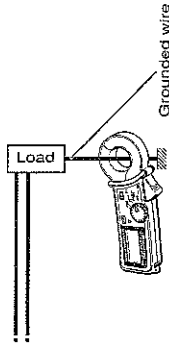

Fig.2 Measuring earth leakage current
- (3) Measure earth leakage current (See Fig.2):